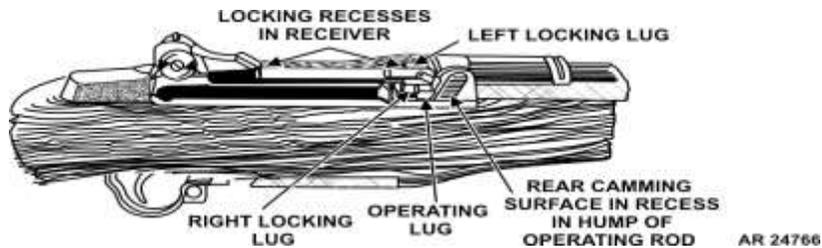

Figure 57 -Locking
- 3) **Locking:** Locking is complete when the bolt is fully closed. The bolt is moved into its fully locked position through the camming action of the operating rod which forces the operating lug of the bolt down. This engages the locking lugs on the bolt with their recess in the receiver (fig 57).